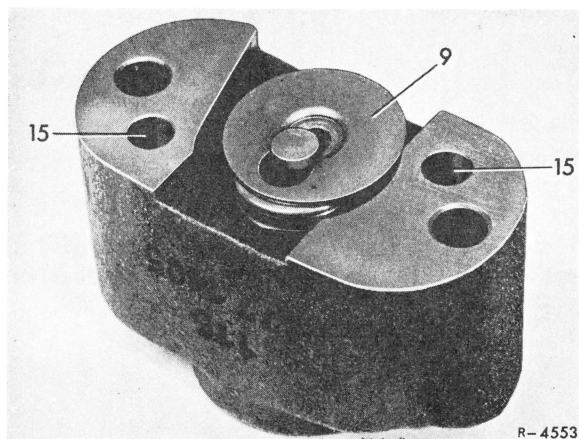

Fig. 5
9 Attach spring plate (9), watching out for correct seat (Fig. 5).